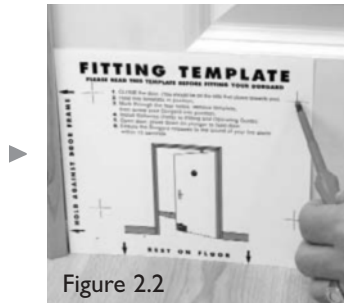

Figure 2.2
- 3) Make pilot holes or mark the position for the holes through the template. **(Fig 2.2)**